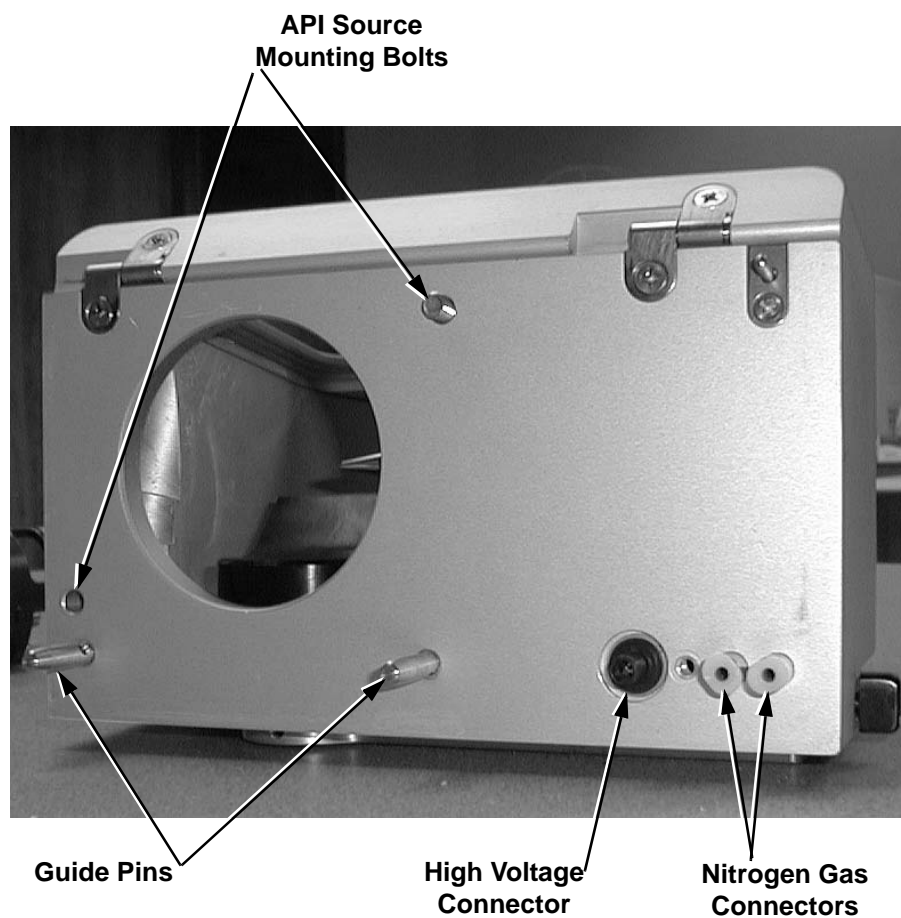
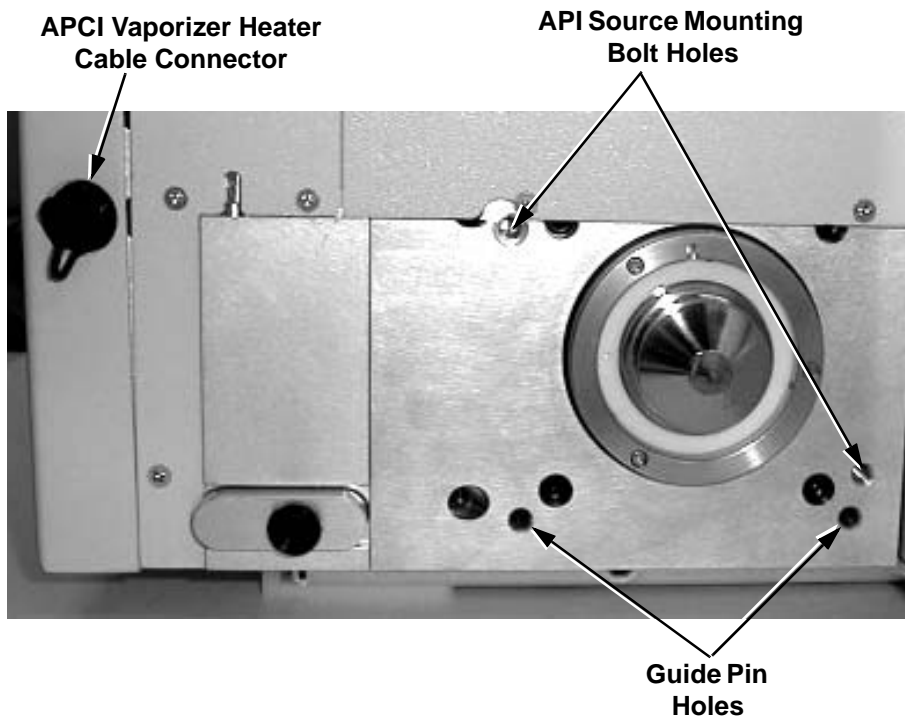

Figure 4-2. Rear view of the ESI source housing
Figure 4-3. Front panel of the mass spectrometer with the API source removed
To install the ESI source, remove the APCI source using the procedure described in the previous topic; then proceed as follows. Refer to Figure 4-2. for the location of the components of the ESI source.
3. Align the two guide pins on the rear of the ESI source housing (see Figure 4-2) with the guide pin holes on the mass spectrometer (see Figure 4-3).
8. Insert the ESI interlock plug (Figure 4-3) in the APCI vaporizer heater cable connector.
3. Align the two guide pins on the rear of the APCI source housing (Figure 4-2) with the guide pin holes on the mass spectrometer (Figure 4-3).